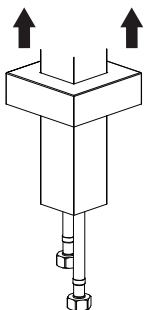

Figure 24
4. Slide the decorative flange onto the tub filler body as shown in Figure 24.